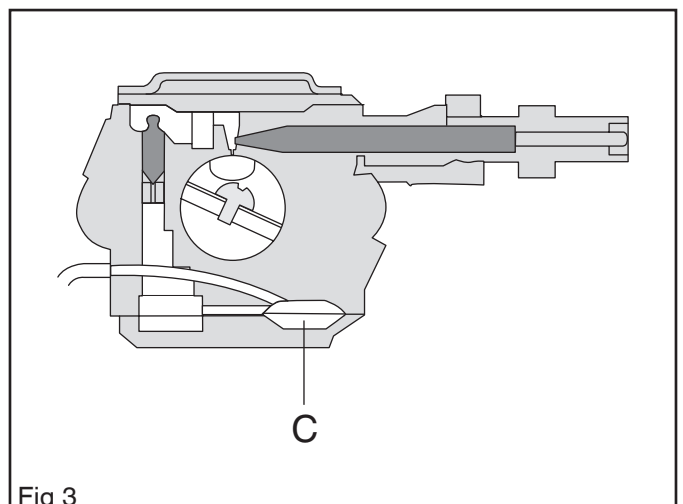

Fig 3
In the pump unit (C), fuel is pumped from the fuel tank to the metering unit. One side of the pump diaphragm is connected to the crankcase and pulses in time with the pressure changes in the crankcase. The other side of the diaphragm pumps the fuel. See Figure 3.